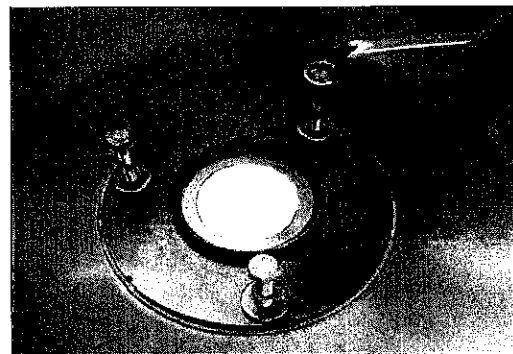
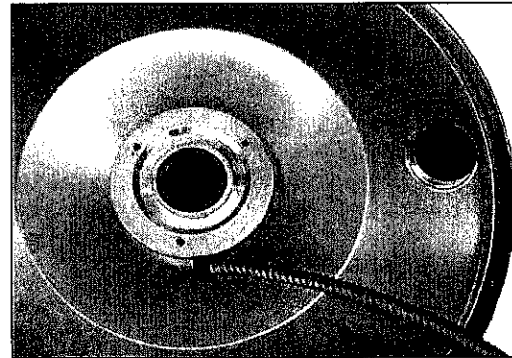

fig. 22
fig. 23
- Position the outer drum separator as indicated in (fig. 23) and secure in place. Put the three M8x55mm bolts in place from the inside of the outer drum and apply silicone to the middle of the thread on each. (fig. 22).
- Keep the outer drum separator fixed as shown in (fig. 23).
- Make sure the bolts are firmly tightened from the inside of the outer drum using the 13mm wrench. (9/16 inch.) (fig. 22).